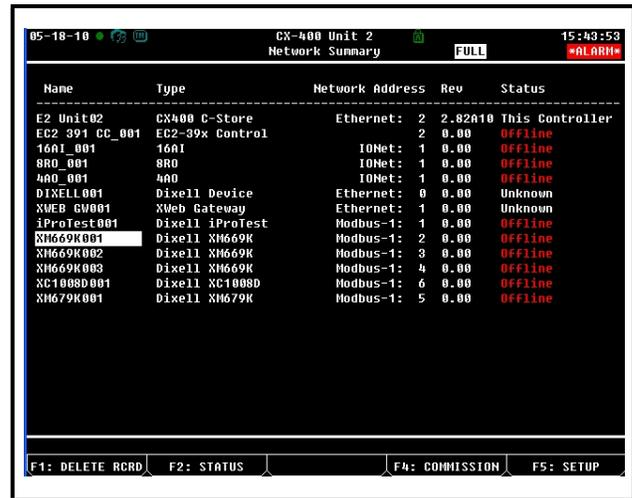

Figure 16-8 - Network Summary Screen
8. When finished, press **F1** to return to the *Network Setup* menu, then press **F4** - **Network Summary** (Figure 16-8). Locate the devices you set up, and look at each device's status in the **Status** field. You will see one of the following messages: